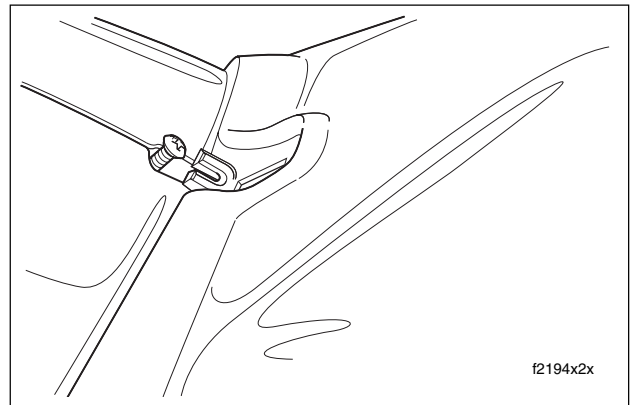

Figure 2-175. Remove Screw From Slot in Wind Deflector
6. Loosen Phillips screw at front of wind deflector (but do not remove). Reaching inside the headlamp nacelle, release screw head from slot in tab and then draw screw assembly down and out through headlamp nacelle. See Figure 2-175.
- Holding screw assembly, reach inside headlamp nacelle and insert head of Phillips screw up through opening to engage slot in tab at front of wind deflector. See Figure 2-175. Tighten screw to 10-20 **in-lbs** (1.1-2.3 Nm).